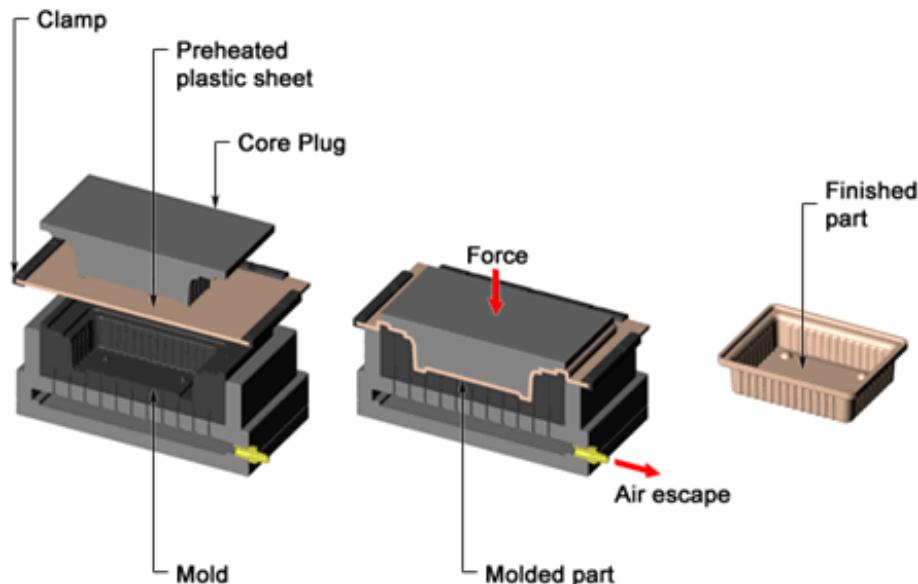

Figure 4c(ii) / Rajah 4c(ii)
- ii. Write the operating mechanism of the thermoforming process shown in Figure 4c(ii).